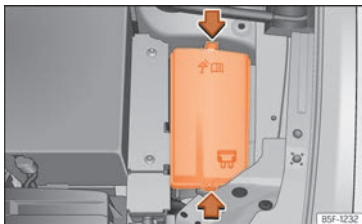

Fig. 56 In the engine compartment: fuse box cover.
- Press the locking tabs to release the fuse box cover »» **Fig. 56**.